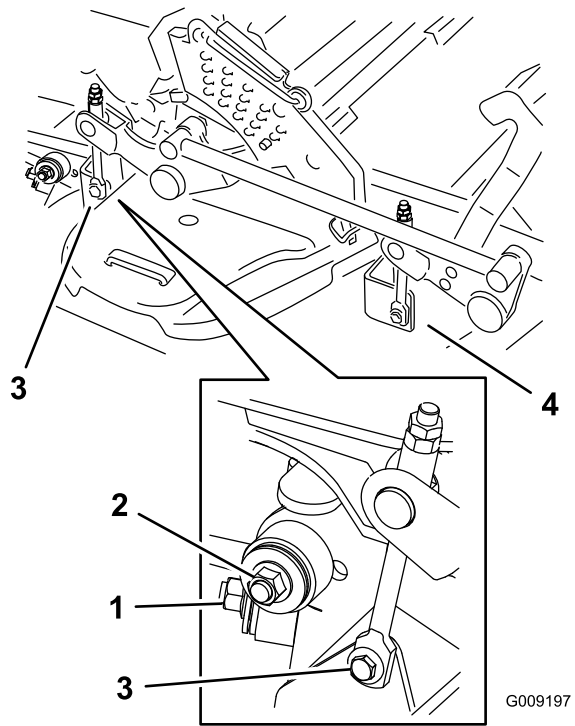

Figure 103
8. Remove and retain the hardware on both sides of the deck as shown in Figure 103.